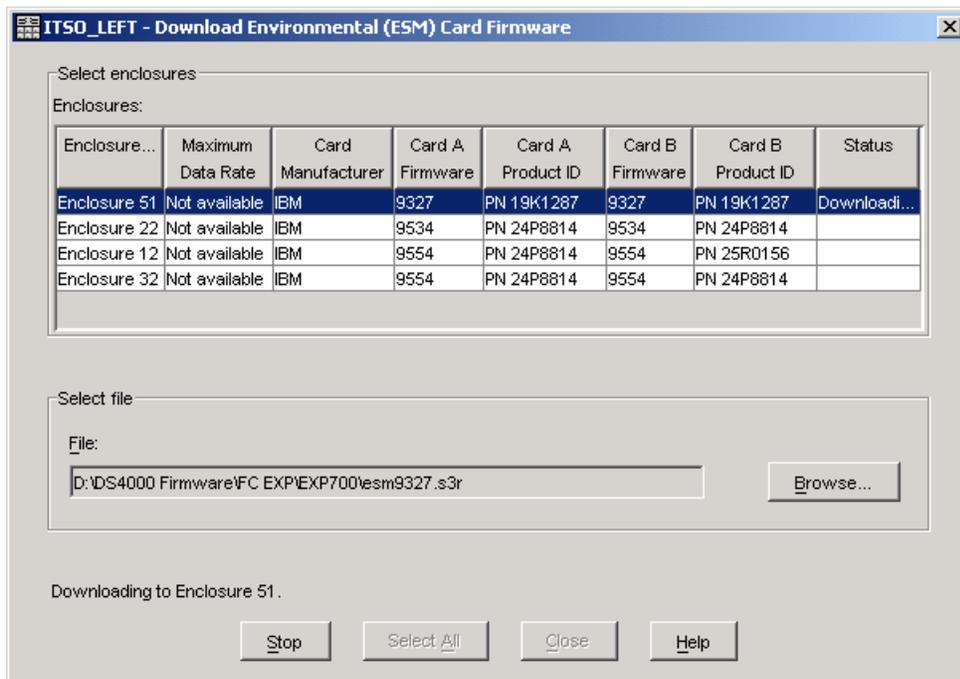

Figure 12-18 Download ESM firmware dialog
2. The Download Environmental (ESM) Card Firmware main window is displayed (see Figure 12-18).